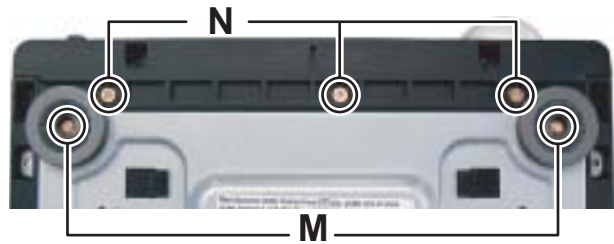

Fig.6
3.1.3 Removing the Front panel (See Fig.6, 7)
- (1) Remove the two screws **M** attaching the Foot. (See Fig.6)
- (2) Remove the three screws **N** attaching the Foot. (See Fig.6)